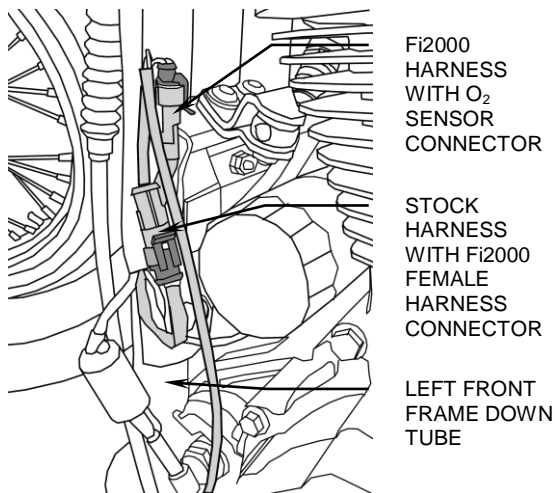

FIGURE 3
7. Now route the longer O₂ harness down and forward along the left side bottom frame rail. Ziptie the harness in 3 places. The connectors will end up at the front O₂ connection. Unplug the factory connection and again plug the corresponding Fi2000 connectors into the matching Harley connectors. Use one ziptie and the factory U-clip to hold the connections to the frame down tube. See Figure 3.
9. Before re-installing the seat and left side cover, verify your connections. Remove the door from the Fi2000 box to expose the LED's. Verify the wire connections by (1) turning the ignition on, prior to starting, and see if all three LED's are on steady. If you have no light, your ground connection (BLACK wire) has not made proper contact or your front injector connection is not complete. (2) After achieving a steady light from all three LED's, start the motorcycle, wait 15 seconds and let it idle, the green light should now be the only LED on. If all three LED's are still on after start up, verify you have attached the injector connectors correctly. Reattach the door when finished. **Note:** Make sure the ignition is turned off before changing any connection.